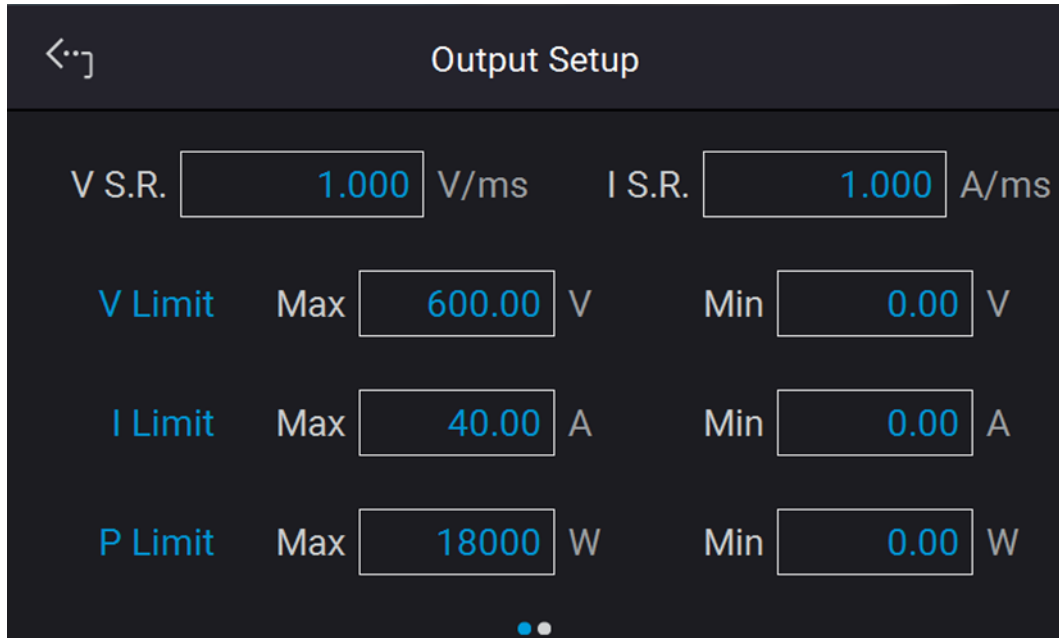

Figure 3-8
1. Swipe the “Output Setup” page on the touch screen left to next page as Figure 3-8 shows.
1. Select the I slew rate corresponding space as shown in Figure 3-8 to set the value.